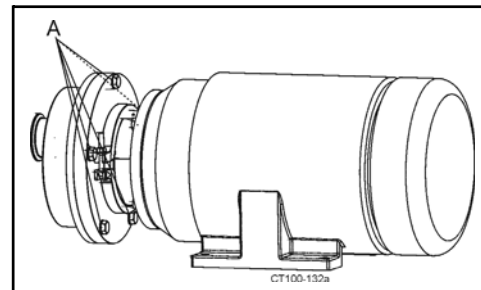

Figure 8 - Remove Backplate Bolts
4. Remove bolts and washers connecting front cover to backplate (Figure 8, item A).